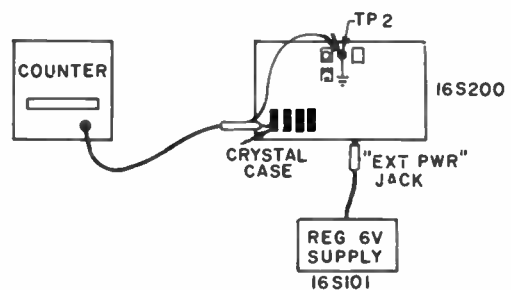

Figure 4—Test setup for Crystal Frequency Measurement
1. Connect the test equipment as shown in Figure 4.